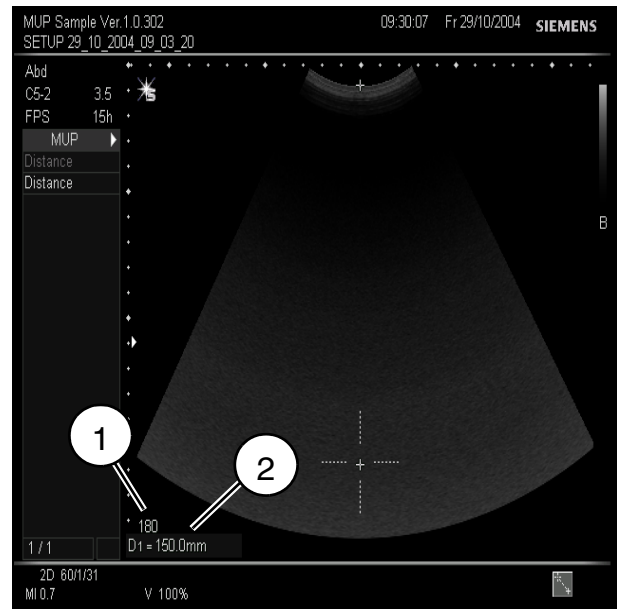

Fig. 4
- Move to the center of the crosshair with the trackball. A value of  $151 \text{ mm} \pm 1 \text{ mm}$  must appear in the display (2/Fig. 4).